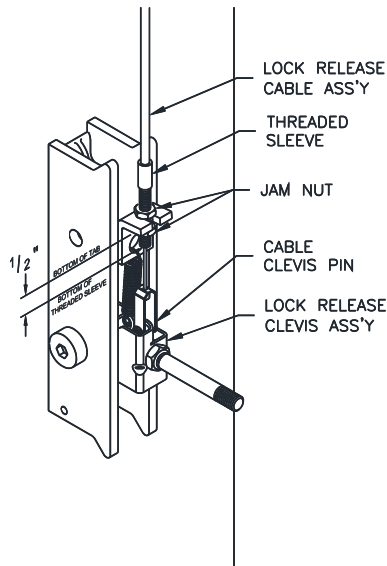

Fig. 13 – Power Column Lock Assembly
- 32) Attach Mechanical Lock Release Cable Assembly to Power Column Lock Release Clevis using the 3/16" diameter x 1/2" long pin and (2) "C" clip retainers, **Fig. 13**.
- 33) Insert threaded sleeve portion of cable assembly in slot located on tab above locking pawl, **Fig. 13**. One jam nut should be located on each side of tab. Position threaded sleeve with 1/2" of thread below tab as indicated in **Fig. 13** and tighten jam nuts.